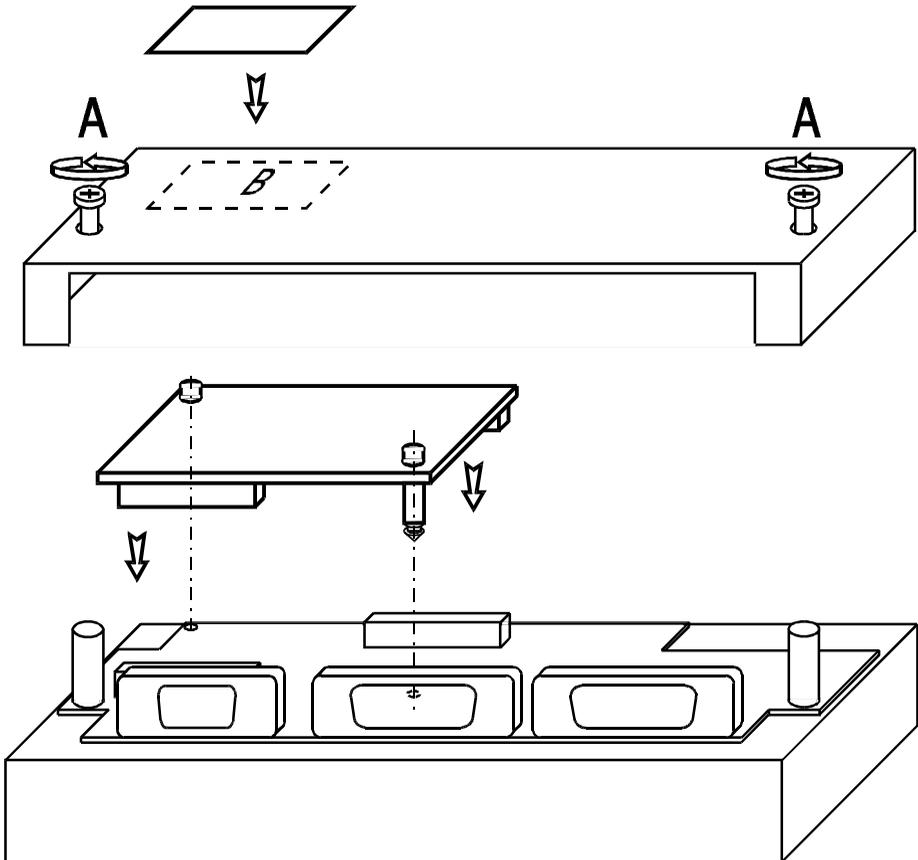

Figure 22- Mounting the communication modules
- 2) Partially unscrew with a screwdriver the 2 screws holding the rear cover. The screws are labelled 'A' in Figure 22.